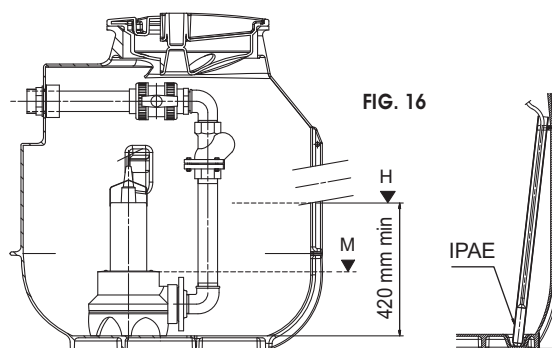

FIG. 16
- In the control unit, set the IPAE trip levels. The minimum setting values may be the following (for an IPAE positioned at the bottom of the tank and the pipe of arrival of the waste positioned like above - FIG. 16) :